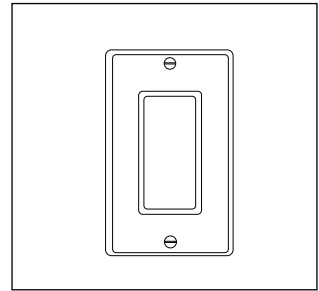

Figure 1
1. Wall switch light memory: (Figure 1)
- Low-profile use (Figure 1):